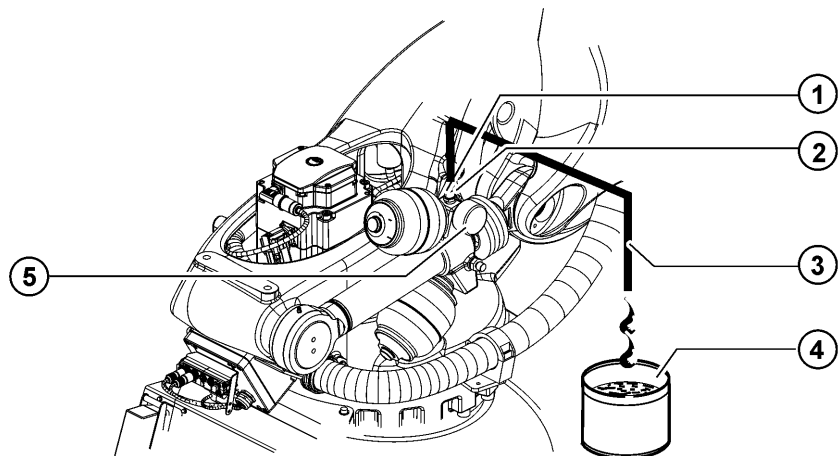

Fig. 10-4: Draining the hydraulic oil
2. Remove the screw cap and connect the tube to the vent valve (>>> Fig. 10-4).